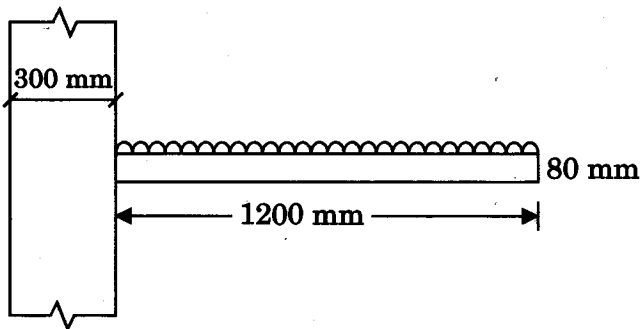

Figure 1
- (b) Design the cantilever chajja slab, shown in Figure 1. Take live load intensity on the slab as 2 kN/m². Use M 20 grade concrete and Fe 415 grade steel. $12\frac{1}{2}$